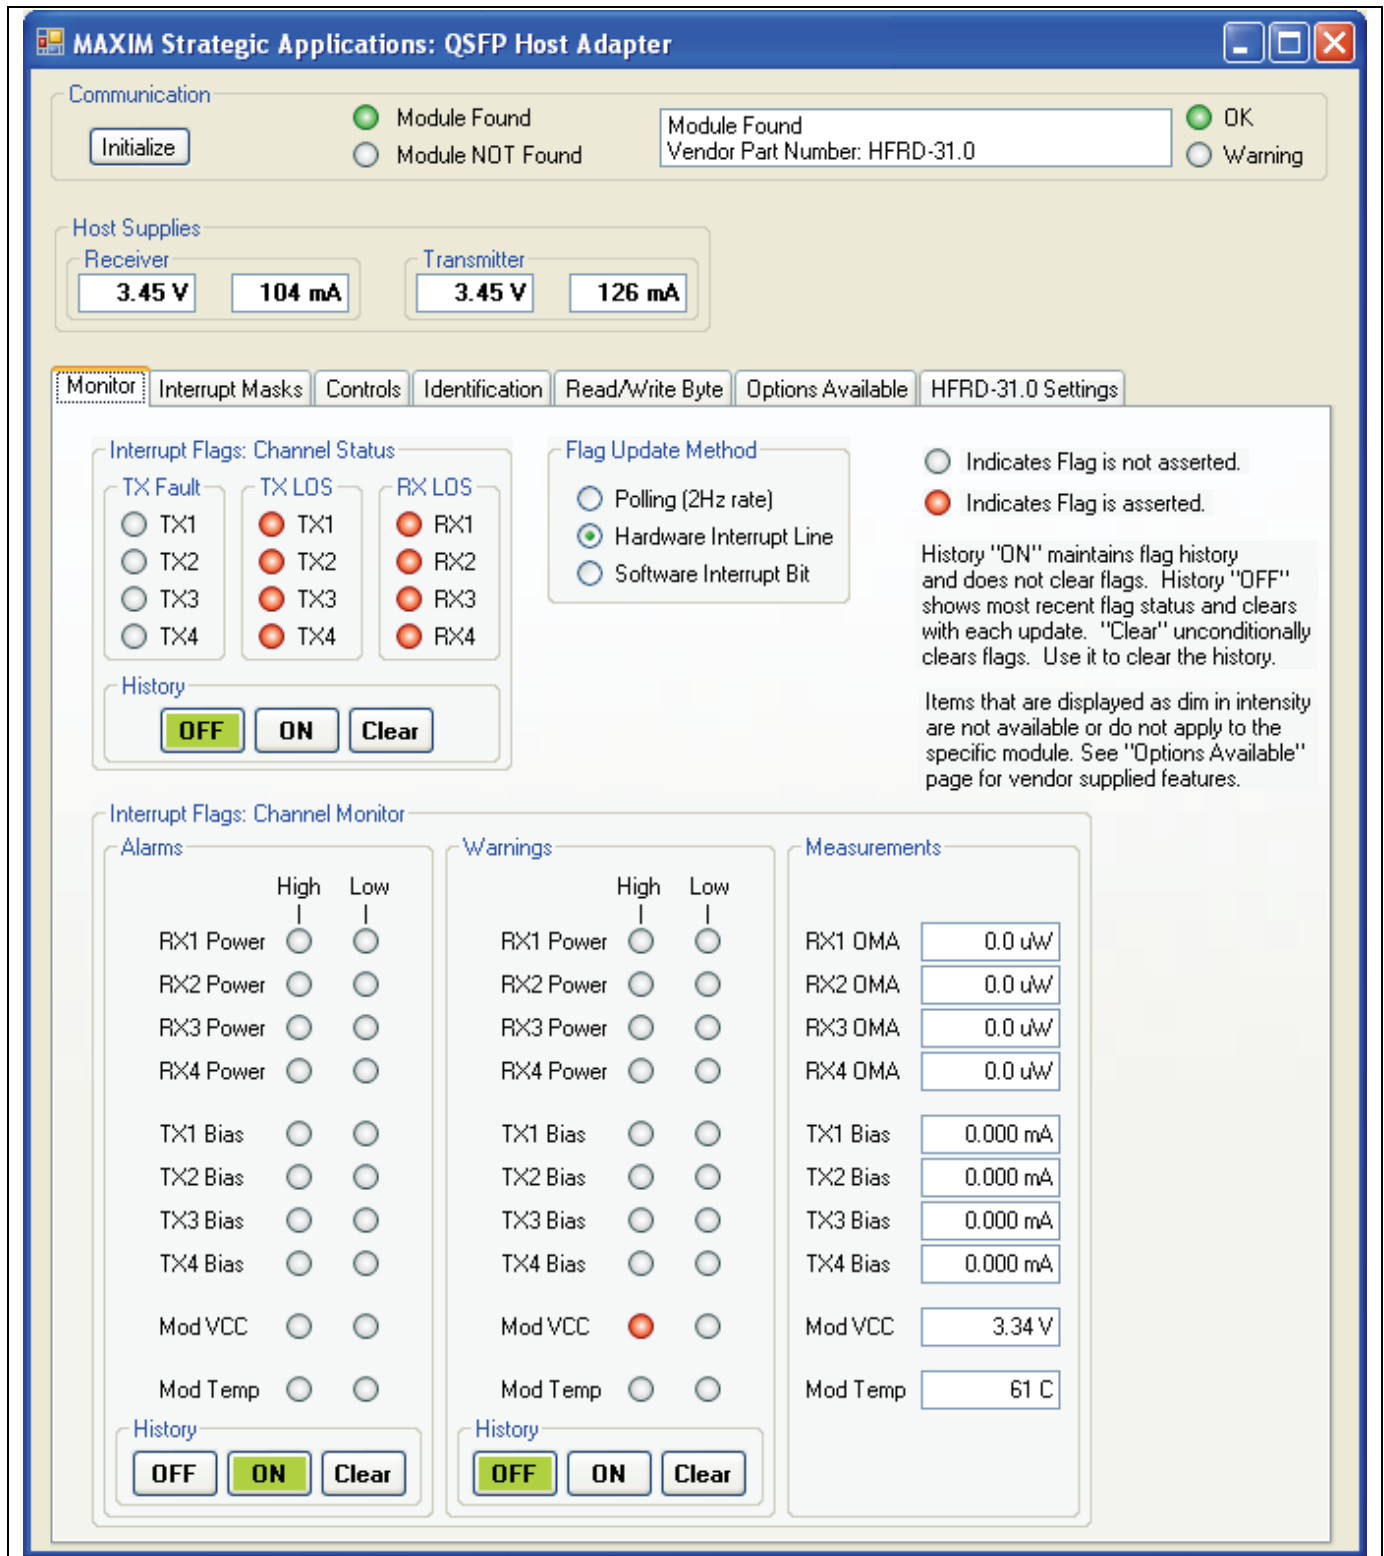

Figure 4. Monitoring includes flag history, measurements and choice of event that forces the update.
The user interface display is divided into two major regions. The uppermost region pertains exclusively to the host board. See Figures 2 and 3. This region includes advisory messages about the status of the communication link with the module, the current and voltage supplied to the module, and the **Initialize** button. The lower region pertains exclusively to module operation. See Figures 4 through 10. Module functions and features are accessed through the tab boxes. A mouse click on a tab reveals the relevant controls.
9. After establishing communication with the QSFP module, the remainder of the QSFP functions will be enabled and accessible. The display should be similar to Figure 4.